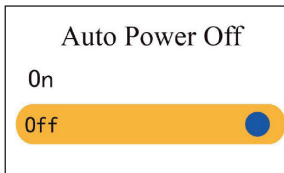

Figure 4.10D Auto Power OFF setup
- **Auto power off:** To turn on/off the Auto Power Off mode, the factory default is “On”, as shown in figure 4.10D.